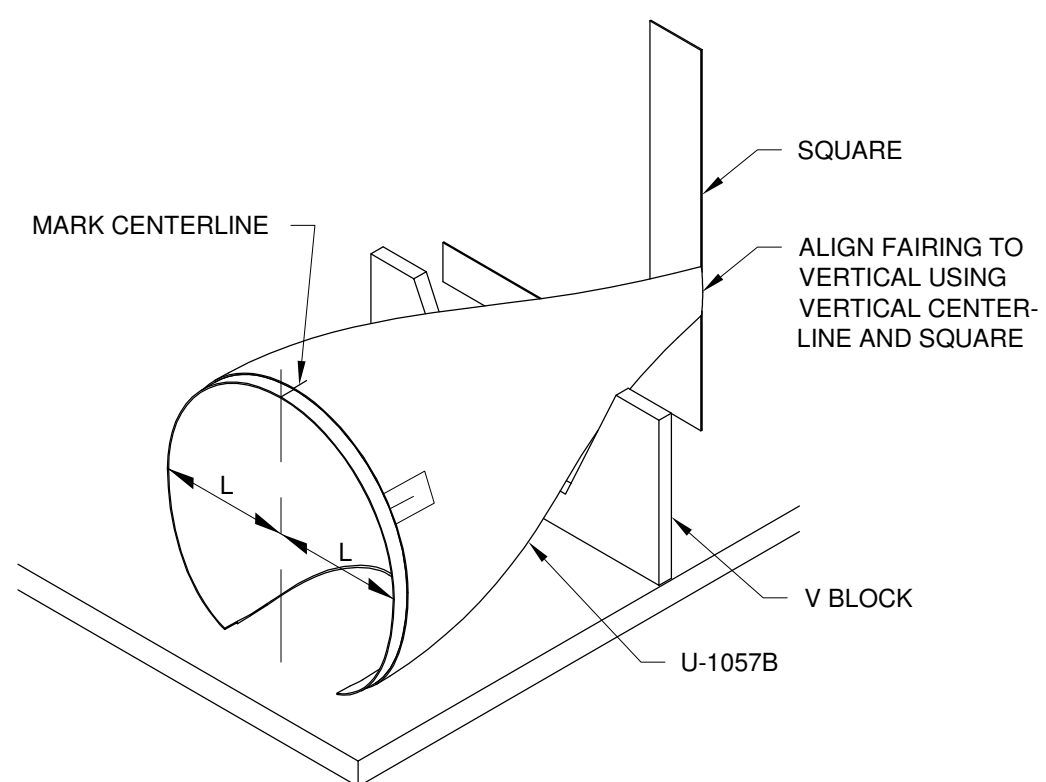

FIGURE 2: MARK FAIRING CENTERLINE
Step 2: Place the U-1057B Wheel Fairing Rear on the bench and make it plumb using a square so that the reference line on the fairing is vertical. Mark a centerline as shown by measuring horizontally across the forward opening of the fairing as shown in Figure 2. Position a square at the midpoint of this distance and mark the top of the wheel fairing rear. Extend the mark 1/2" aft of the molded step. This reference mark will serve to align the wheel fairing along its roll axis.